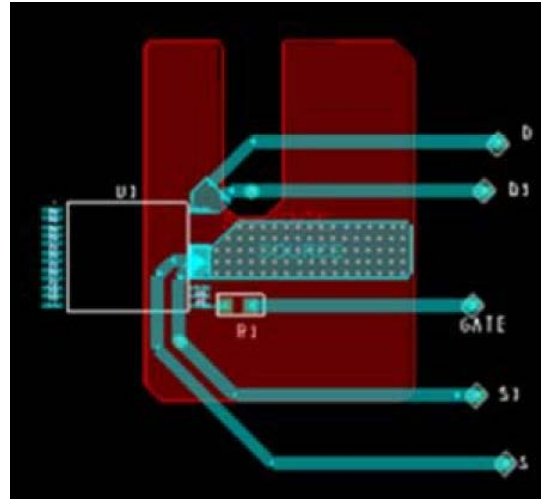

Figure 23. Thermal Resistance Test Conditions for PowiGaN Devices (INN3678C, INN3679C and INN3670C.)
Testing performed on custom thermal test PCB as shown in Figure 23. The test board consists of 2 layers of 2 oz. Cu with the InSOP package mounted to the top surface and connected to a bottom layer Cu heat sinking area of 550 mm².
4. Please see Figure 23.